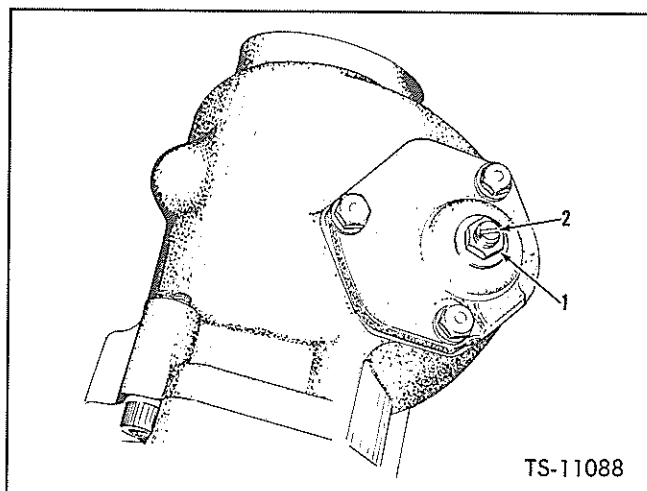

Fig. 37. Adjust Steering Gear
4. Loosen locknut Item 1, and turn adjusting screw Item 2, clockwise to increase pull at the wheel and counter clockwise to decrease the pull. See Figure 37. Reset locknut and recheck pull as it must be within the specified limits after the locknut is tightened.